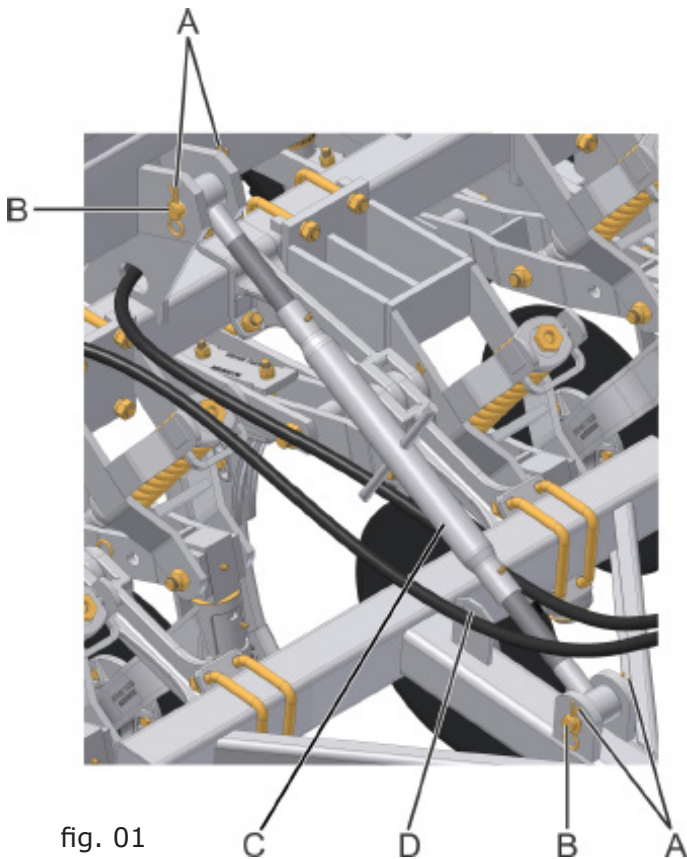

fig. 01
To suspend the head, remove locking pins "R" (A) (fig. 01) from the pins (B) of the third point arm (C). Remove the pins (B) and remove the third point arm (C).